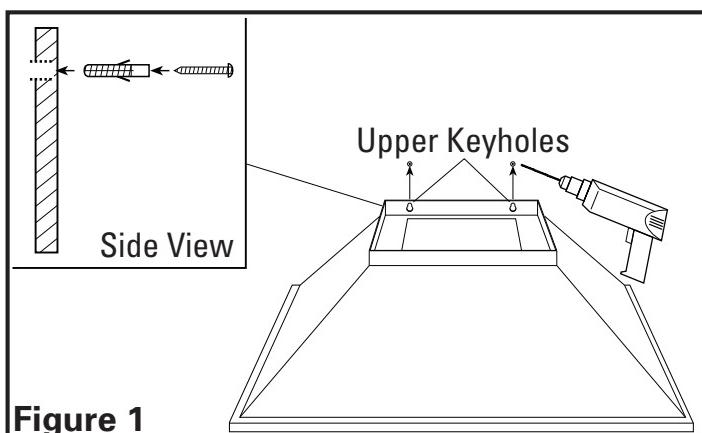

Figure 1
1. Locate and mark the upper keyhole positions on the wall. If installing onto drywall, drill holes into wall using a 3/16" drill bit. Install wall anchors into the drilled holes (one for each hole). Install (2) provided #6 x 1" screws, leaving a 1/8" gap between the screw head and the wall. If installing into other material (brick, cement, plaster, etc.) choose an appropriate fastener capable of supporting the weight of the hood. Line up the keyholes in the hood with the screws and position in place. Hang the hood over the keyhole anchors and verify that the hood is centered, plum and level (Figure 1).